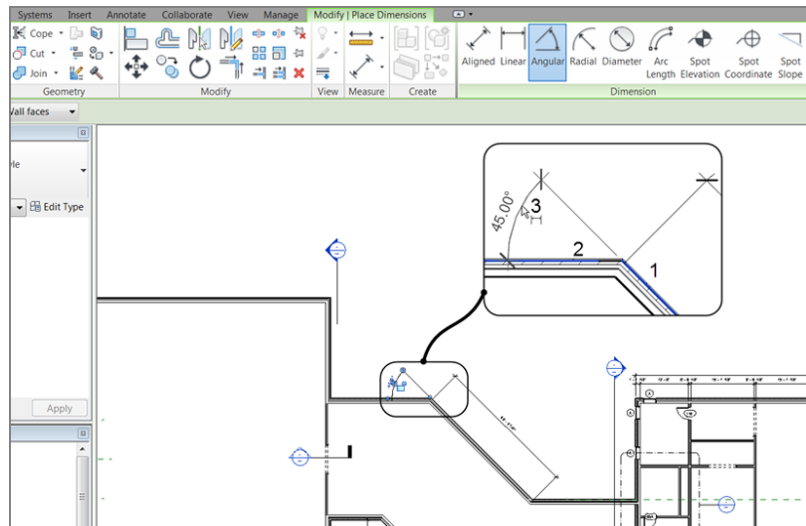

FIGURE 5.18: Placing an angular dimension involves picking two walls and then a point to place the dimension.
2. On the Dimension panel, click the Angular button, as shown in Figure 5.18.
3. For the first wall, pick the finished, inside face of the angled corridor wall, which is marked 1 in Figure 5.18.
4. Pick the finished, inside face of the north corridor wall, marked 2 in Figure 5.18.
5. Move your cursor to the left about 8' (2400mm), and place the dimension marked 3 in Figure 5.18.